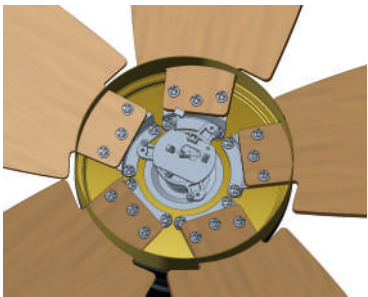

Fig 6.2
- 6.2 Repeat for the remaining blades. The installation of the blades is shown in the Fig 6.2.